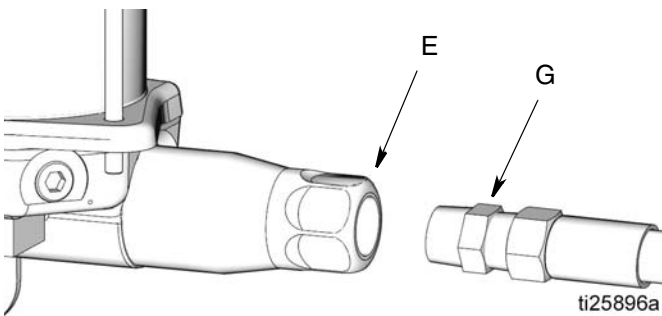

FIG. 9
6. Connect the **pump outlet (E)** to the **lubrication line (G)** (FIG. 9).